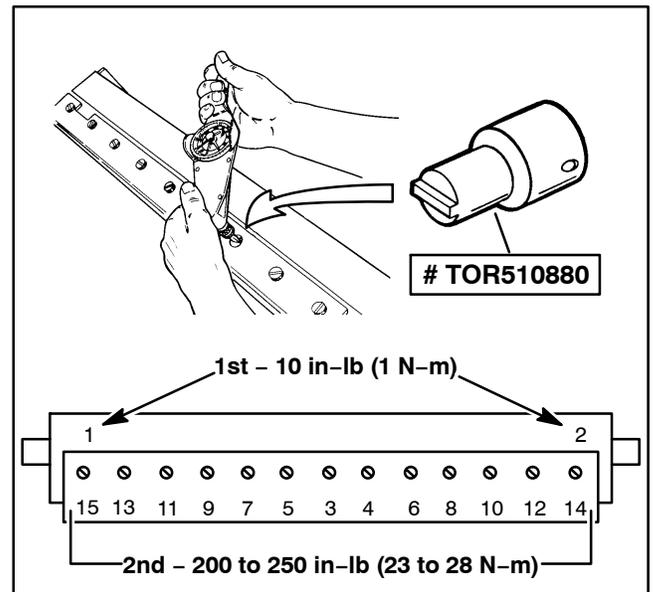

Figure 35
6. Working from the center of the bedknife toward each end (Fig. 35), tighten screws from **200 to 250 in-lb (23 to 28 N-m)**.